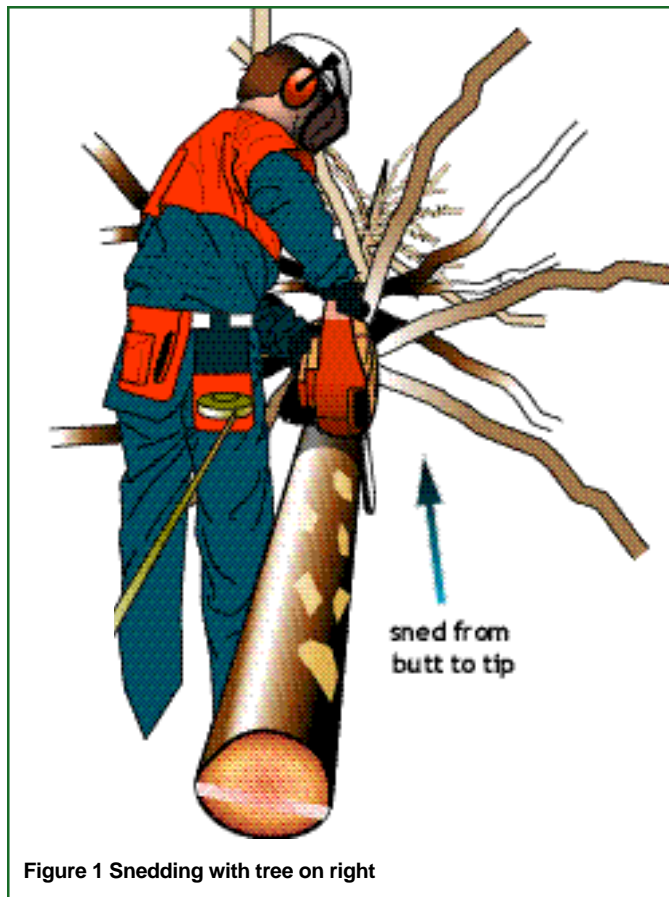

Figure 1 Snedding with tree on right
- 5 Always sned with the tree on your right-hand side (see Figure 1).